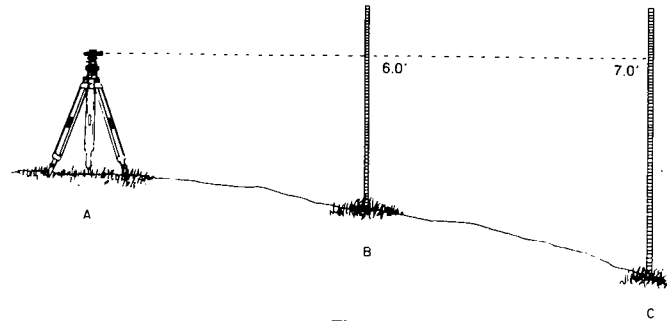

Figure 8
- 3.) With the instrument leveled and the telescope vial set, it is safe to assume that the instrument's line of sight is horizontal. Figure 8 demonstrates how to determine a difference in height or elevation between two points. If the rod reading at point B is 6.0 feet and the reading of point C is 7.0 feet, we know that point B is 1.0 foot higher than point C. Using the same principle, you can check the level of foundations, the slope of driveways, etc.